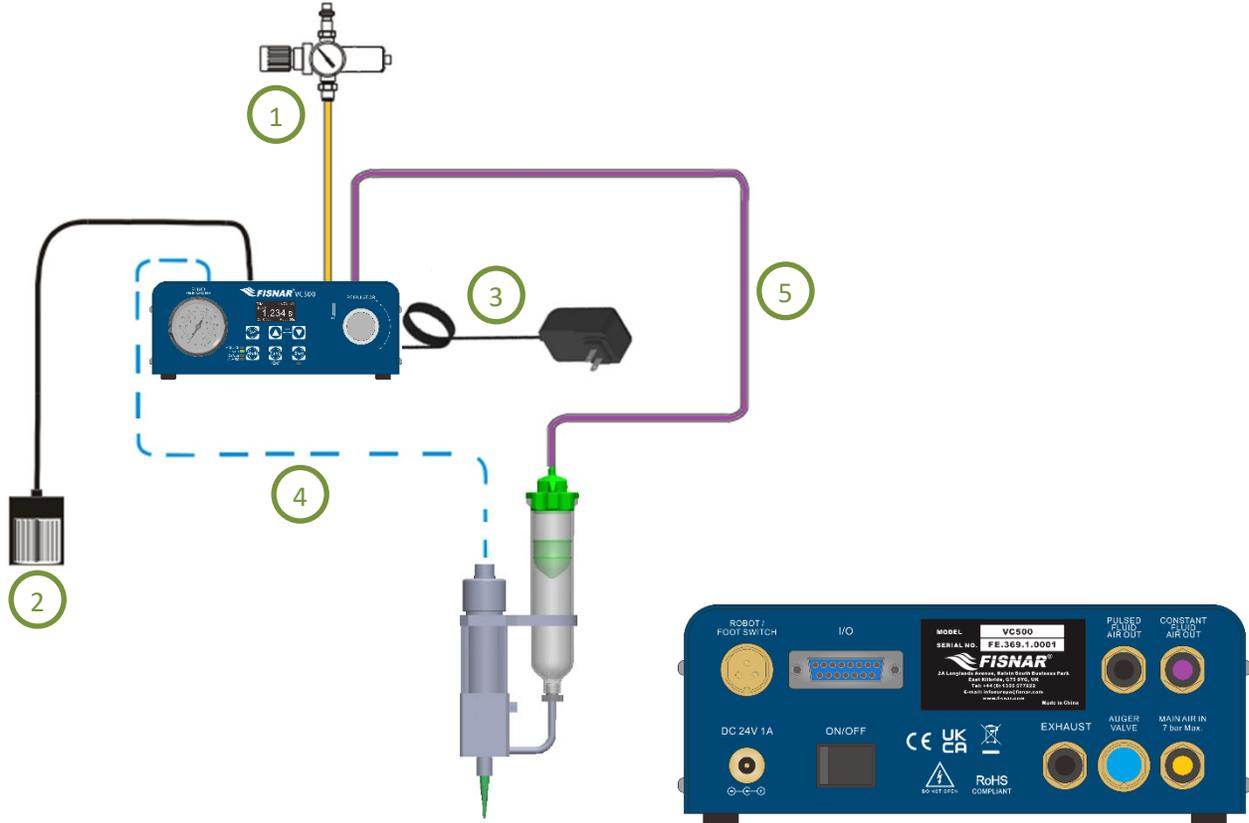

FIG. 5: Machine Setup
1.	Connect air hose (1) from compressed air 70-100 psi (5-7 bar) to the “Main Air In” port on the back of the machine. See FIG. 5.
2.	Insert the Foot Pedal connector (2) to the port on the back of the machine. See FIG.5. Or connect the cable from the dispenser port of the Fisnar robot here. Alternatively, the machine can be connected to be actuated by an external device using the I/O connector on the back of the machine.
3.	Attach appropriate country type plug adapter onto the power supply and then connect Electrical Power Cord (3) to the power input connector on the back of the machine. See FIG. 5.